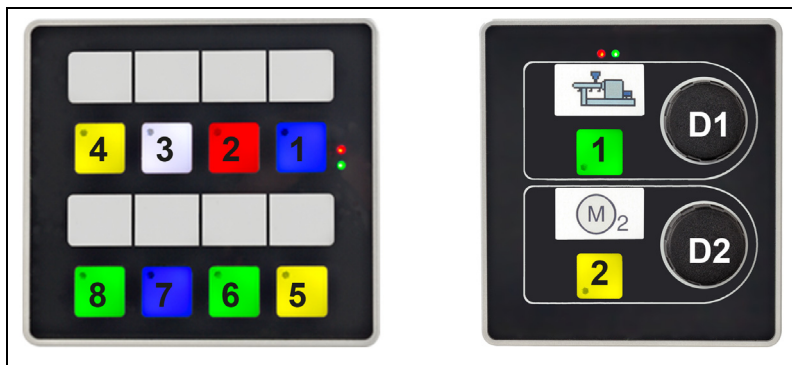

Abb. 6.6: Operation module OM 2008 and OM 2002 with numbering of keys and rotary pulse encoder.
=> Select your desired module from the list (1) "Request History" (Fig. 6.6) by double-clicking it.
After closing the New Entry window, the DHCP server window appears again (Fig. 6.6). In list (1) (Request History) and list (2) (Relation List) the module with the assigned IP address appears. LED 1 (back of module) is on.